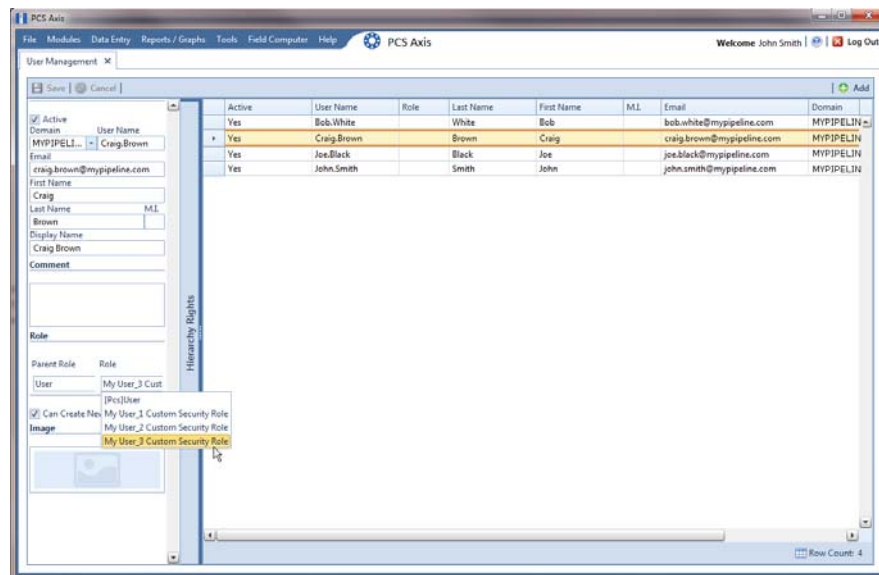

Figure 3-21. User Management
- 1 Click **Tools** > **User Management** to open the *User Management* window (Figure 3-21).